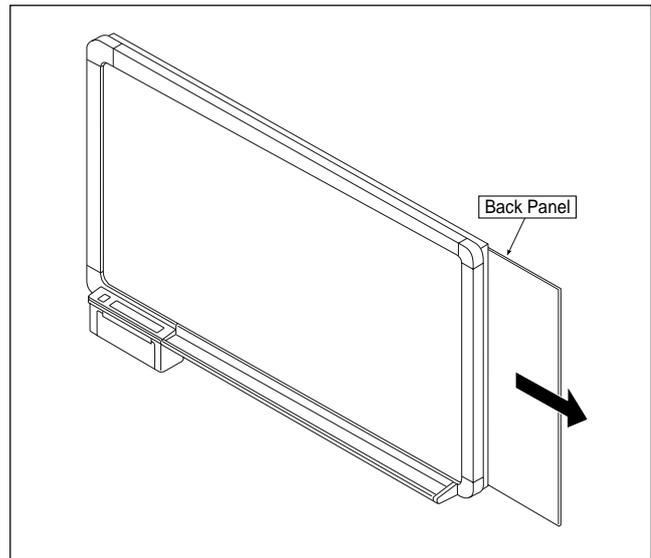

Fig. 2
2. Slide the Back Panel and remove it as shown in Figures 2.